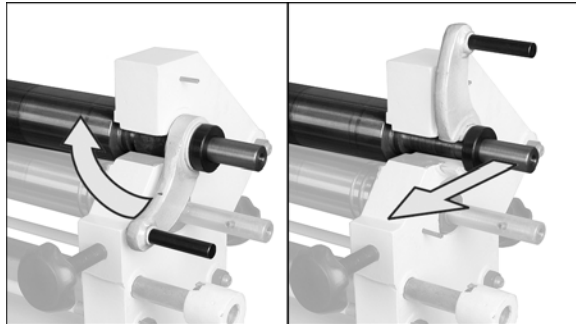

Figure 3
1. Once material has been rolled, release it from roll by lifting clamp handle (Figure 3).